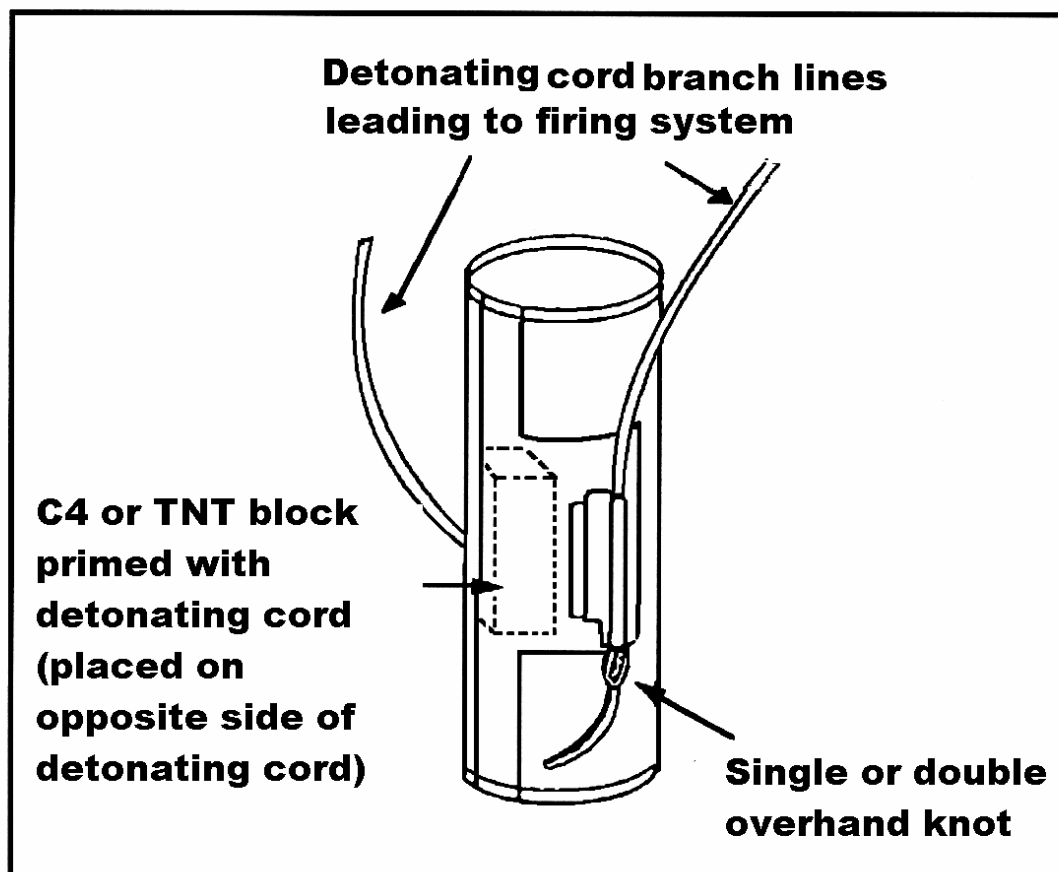

Figure 052-193-1311-8
- (1) Pass the end of the detonating cord through the tunnel on the side of the cratering charge.
- (2) Tie an overhand knot with a 6-inch tail at the lower end of the length of the detonating cord.
- (3) Take a preprimed 1-pound block of explosive (C4 or TNT) and tape the charge along the center of the cratering charge (Figure 052-193-1311-8).